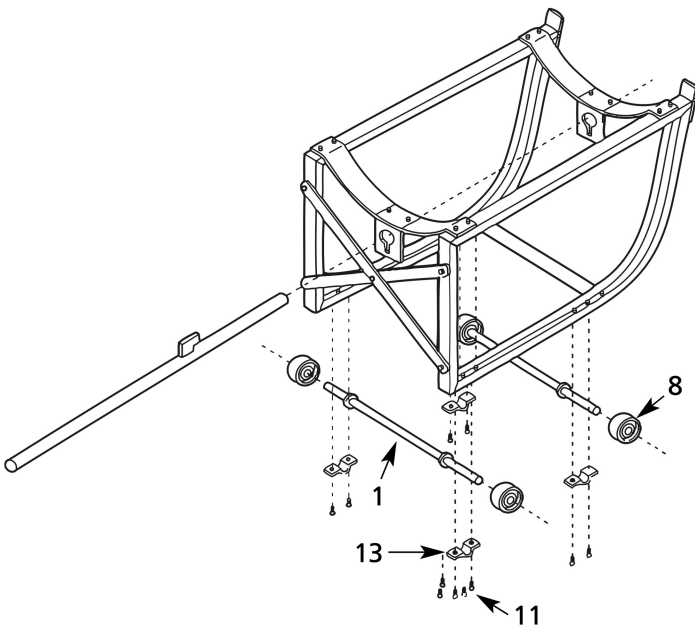

Figure 4 – Wheel Assembly for 1GC91G
3. Bolt the two cross braces together (Ref. No. 5, with slot holes on ends). Then bolt to the front of each side frame as shown in Figure 4, page 4.
(See Figure 4, page 4)